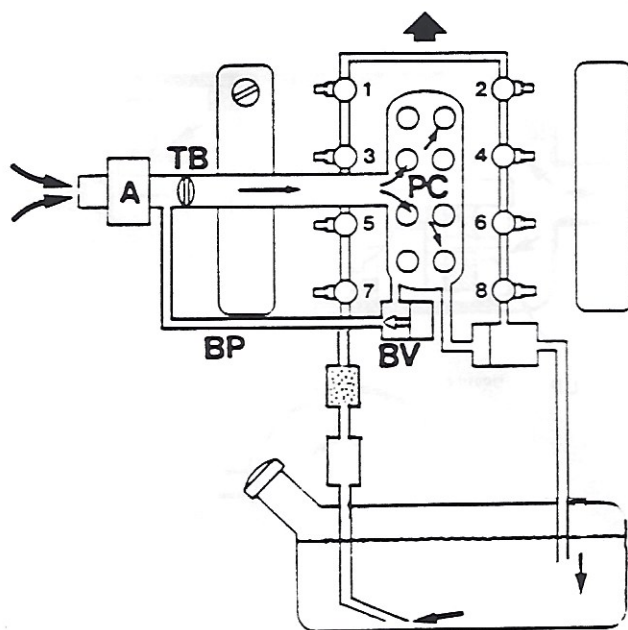

fig.29
The accelerator pedal operates a throttle butterfly (TB) (See Figure 29), located in the air intake tract. From there air passes to a plenum chamber (PC) located centrally over the engine and from which the air is drawn through its ram pipes into the inlet manifold.